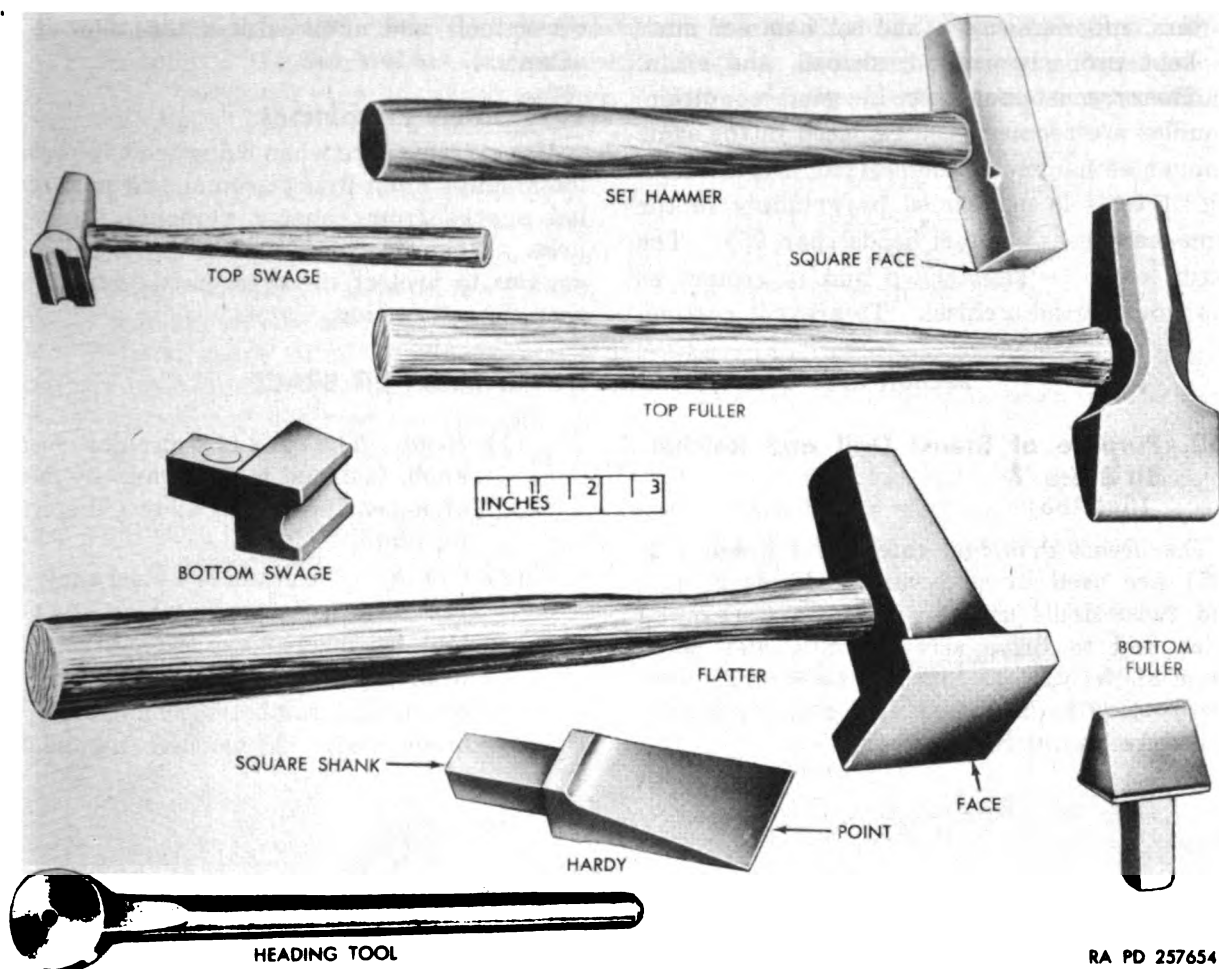

Figure 184. Blacksmith's tools.
a. Flatter. A flatter (fig. 184) is a hammerlike tool with a flat face. It is used for smoothing and finishing flat forgings.
b. Fuller. Fullers (fig. 184) are used for necking and grooving forgings and for drawing down a forging to a smaller size. Top fullers have handles and range in size from $\frac{1}{4}$ to 2 inches across the face and weigh from 2 to $4\frac{1}{2}$ pounds. Bottom fullers have a square shank and are sized from $\frac{1}{2}$ to 1 inch, weighing $2\frac{1}{2}$ to 3 pounds.
c. Swages. Swages (fig. 184) are used for shaping, sizing, and smoothing round forgings. They are issued in sets of 6 swags, sized for $\frac{1}{4}$ -, $\frac{3}{8}$ -, $\frac{1}{2}$ -, $\frac{5}{8}$ -, $\frac{3}{4}$ -, and 1-inch round forgings. Swage blocks are also available for special jobs. These block are usually 4 inches thick, 11 or 13 inches wide, and 15 or 18 inches long. The bottom swage blocks have various shaped perforations and grooves for swaging and upsetting forgings and are square shanked. Top swages have handles and are shaped to work with bottom swages.
d. Hardy. A hardy (fig. 184) has a chisel-like point and a square shank. It fits into the square hole in the anvil. Metal to be cut is placed over the point and struck with a hammer or sledge until it separates.
e. Set Hammer. A set hammer (fig. 184) is used for setting down metal in a forging to form a square corner. It has a $1\frac{1}{2}$ -inch square face and weighs $3\frac{1}{4}$ pounds.
f. Heading Tool. A heading tool (fig. 184) is used to form bolt heads. It has a circular head with a hole in the center. Six heads are available with a different size hole. Hole sizes are $\frac{1}{4}$, $\frac{3}{8}$, $\frac{1}{2}$, $\frac{5}{8}$, $\frac{3}{4}$, and 1 inch.